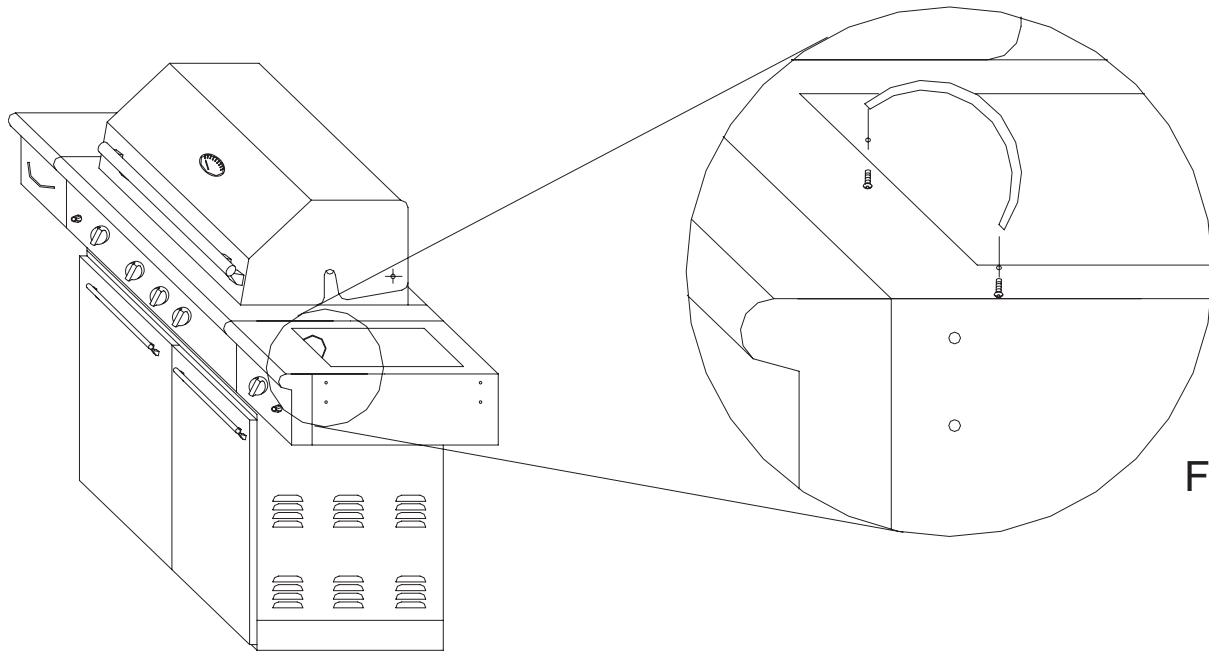

Fig. 3
1. To assemble the side burner lid handle, open the lid then cut off the plastic tie in the screw hole. Install the handle in the lid as shown. (See Fig. 3)